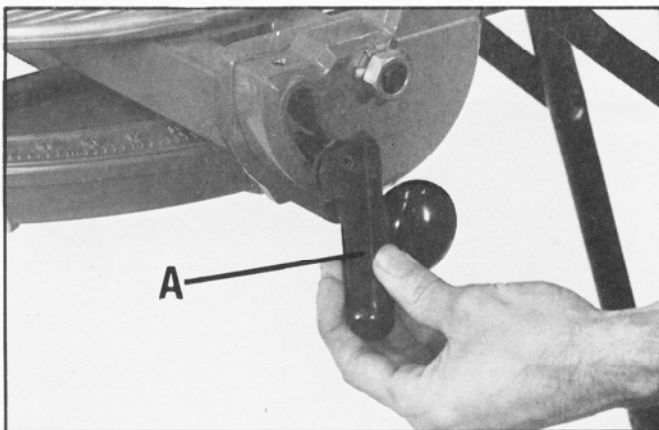

Fig. 34
When the bevel clamp handle (A) is in the up position, as shown in Fig. 34, the clamping action of the track arm is released and the track arm can be tilted to the left.